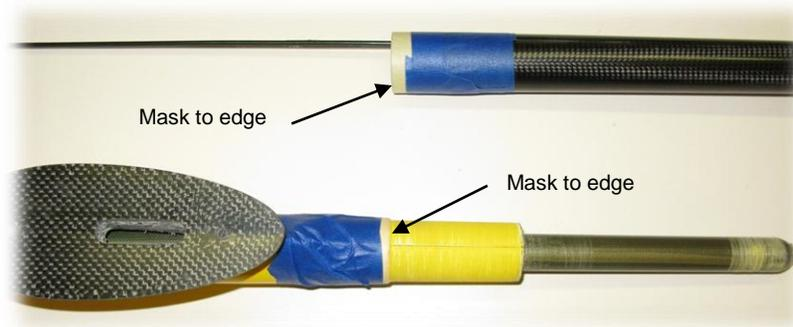

Figure 1: Ends of Fuselage and Boom masked off
1. Mask off the end of the fuselage and the end of the carbon boom where they will be joined together on the outside of the parts as shown in figure 1. The masking will protect the two parts from getting epoxy on the outside surface.